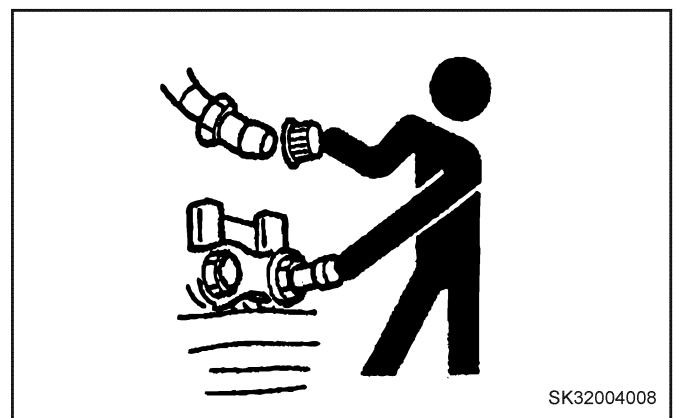

FIGURE 4.4D
G. Prevent Contamination– FIGURE 4.4D